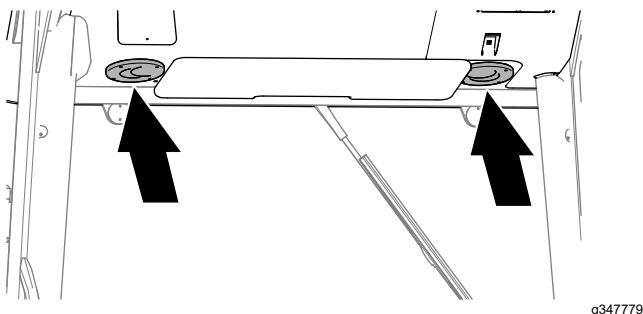

Figure 11
4. Adjust the 2 air-duct nozzles (Figure 11) in the ceiling of the cab to direct air flow to desired direction.